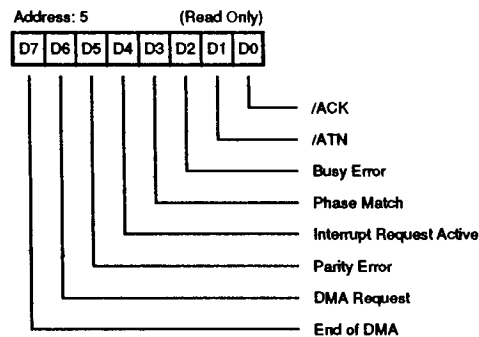

Figure 14. Bus and Status Register
**Bus and Status Register. Address 5 (Read Only).** The Bus and Status Register (Figure 14) is a read-only register which can be used to monitor the remaining SCSI control signals not found in the Current SCSI Bus Status Registers (/ATN and /ACK), as well as six other status bits. The following describes each bit of the Bus Status Register individually.